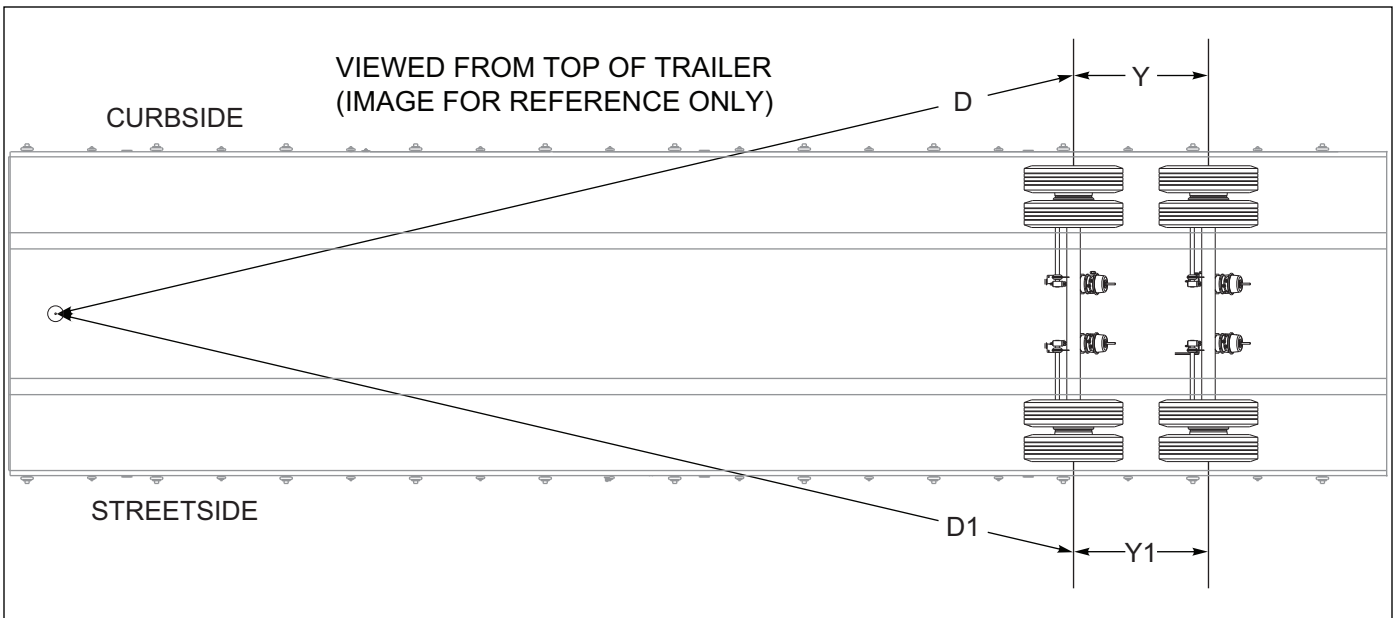

Figure 4-5: Checking Axle Alignment
5. Measure **Curbside (D)** from the plumb bob to the 1st axle center. Measure **Streetside (D1)** from the plumb bob to the 1st axle center. **Curbside (D)** should be about 1/8 inch (3.175 mm) shorter than **Streetside (D1)**. *See Figure 4-5.*
2. Measure from 1st axle center to the trailer 2nd axle center on the curbside then the streetside. Measurements should be the same. Use **(Y)** and **(Y1)** as reference. *See Figure 4-5.*